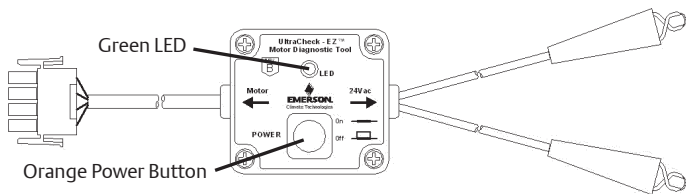

Figure 4
- Use the scenarios below to determine needed action. Complete steps 8-11 before proceeding to the next check. Press the orange button [Figure 4] on the Ultracheck-EZ diagnostic tool and wait five seconds for the blower to spin.
- Press the orange button [Figure 4] again to stop the blower and turn off the Ultracheck-EZ™ diagnostic tool.